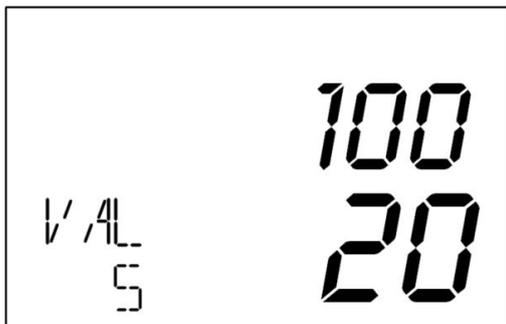
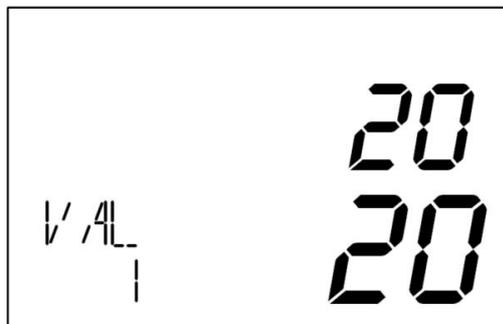

Figure 48
Figure 49
5) Press the "8/▼" button on the right to enter the screen of counting detail. The Count Detail screen will be arranged in descending denomination order. The first screen will display the details of the largest denomination banknote (only \$5 and \$1 will be counted, with \$5 in front, as shown in Figure 48 below). Click the "8/▼" button to switch to the next denomination of the banknote counting details screen (\$1 counting details, as shown in Figure 49 below).